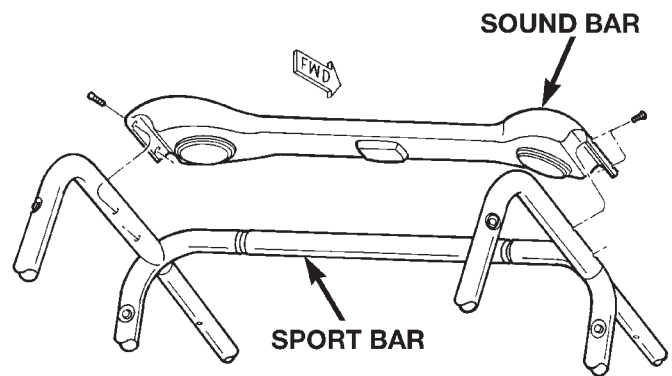

Fig. 8 Sound Bar Remove/Install
(6) Unplug the sound bar wire harness connector.
(7) Lift each outboard end flap of the sound bar cover over the top of the sport bar far enough to access the mounting screws (Fig. 8).